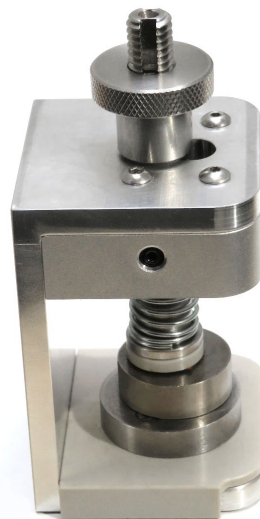

Figure 1: Sample Mounted on Large Area Platen in Sample Clamp
2. Mount a sample to the platen using the mounting adhesive of your choice, making sure the sample is as planar as possible (PELCO® Sample Clamps, shown in *Figure 1* below, can help with sample leveling while the adhesive is still pliable). Try to place the ROI as close to center of the platen as possible, even if the ROI is not at the center of the die.